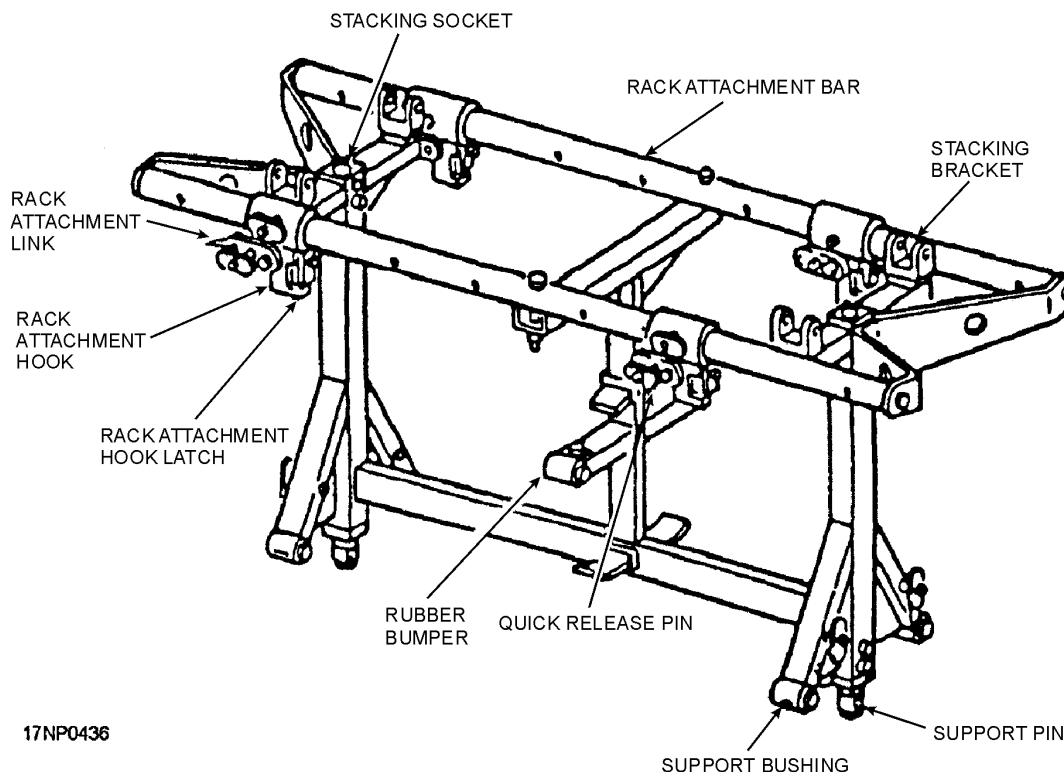

Figure 9-37.—Aero 83A transport adapter.
**AERO 83A TRANSPORT ADAPTER.**—The Aero 83A transport adapter (fig. 9-37) consists of a tubular aluminum frame with a system of movable